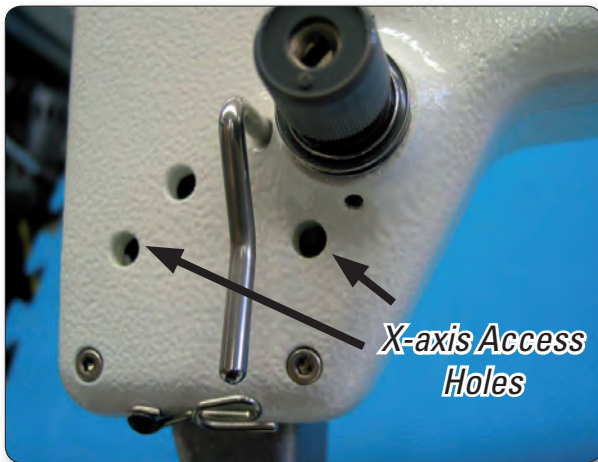

Figure 8.4
- Loosen screws F, G and H through access holes (Figure 8.4) 2 or 3 turns.